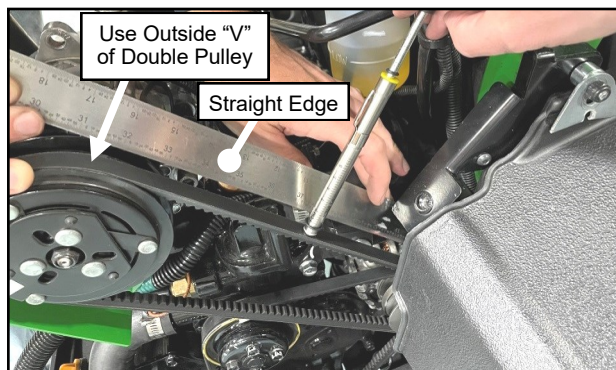

Fig. 2.12 (Install V-Belt)
2.12 Install V-Belt onto the outer "V" groove of the compressor pulley and install the other end onto the double pulley found on the alternator. See Figure 2.12.
2.13 Tension belt by placing a straight edge tangent to compressor pulley and alternator pulley. Place belt tension tester in the center and perpendicular to the belt between the (2) pulleys and next to the straight edge. Push the tensioner towards the theoretical center making sure that a deflection force of 3.1 lbs. gets 0.2 inches of belt deflection at the center of the belt. See Figures 2.12 and 2.13. Tighten hardware and verify correct tension.